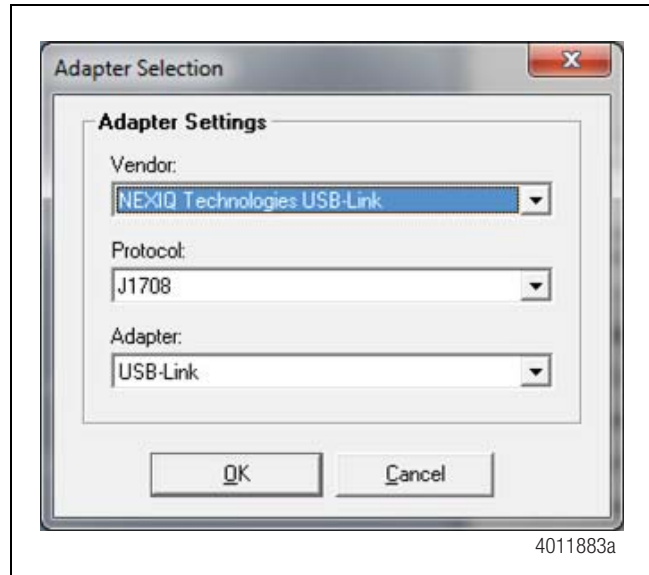

Figure 3
- From the "Adapter" pull-down list, select the appropriate adapter for your device. Refer to the examples in Figure 3 and Figure 4.